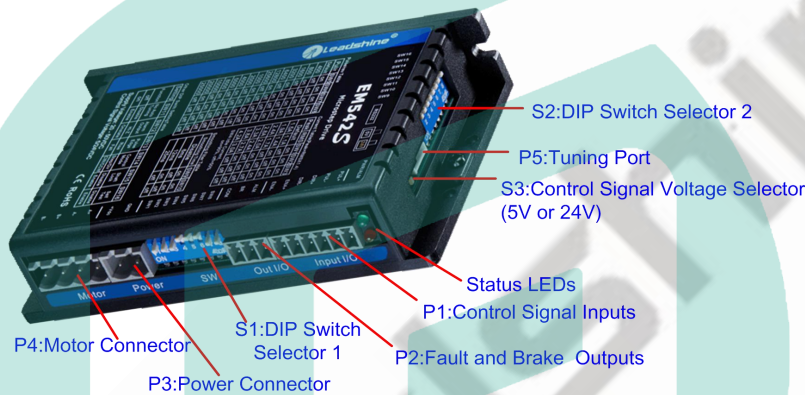

Figure 2 Connectors, DIP switches, and LED locations
DIR- (CCW-)	(6) The activated edge of PUL and DIR is set by DIP Switch SW13 (7) The factory setting of control signal voltage is 24V, must need to set S3 (figure 2) if it is 5V
ENA-	(3) ENA signal requires advance DIR signal minimum 5μs in single pulse mode (4) The default control signal voltage is 24V, to set S3 (figure 2) if it is 5V (5) Enable time to be at least 200ms
The EM542S can accept differential or single-ended control signals (pulse, direction, and enable) in open-collector or PNP connection through the P1 connector (figure 2). It is recommend to add an EMI line filter between the power supply and the drive to increase noise immunity for the drive in interference environments.
The first 8-bit is located on the side (DIP switch selector 1 in Figure 2) and used to configure settings of micro step resolution, output current, and motor standstill current as shown below, the factory setting of SW1-SW8 is **ON, ON, ON, OFF, OFF, OFF, ON, ON**.
The second 8-bit DIP switch is located on the top (DIP switch selector 2 in figure 2), and used to configure settings of control command filtering time, motor auto-configuration, fault output impedance, pulse active edge, control mode, lock shaft, and self-test as shown below, the factory setting of SW1-SW8 is **OFF, OFF, OFF, OFF, OFF, OFF, OFF, OFF**.
The Third 1-bit selector is located on the top (DIP switch selector 3 in figure 2), used to configure the voltage of control signals. For the safety of optically coupled, the factory setting is 24V, which no need to connect 2K resistors like the old drives, making it easier to use. When the voltage of the control signal is 5V, the S3 must be set to 5V, otherwise, the motor won't work.